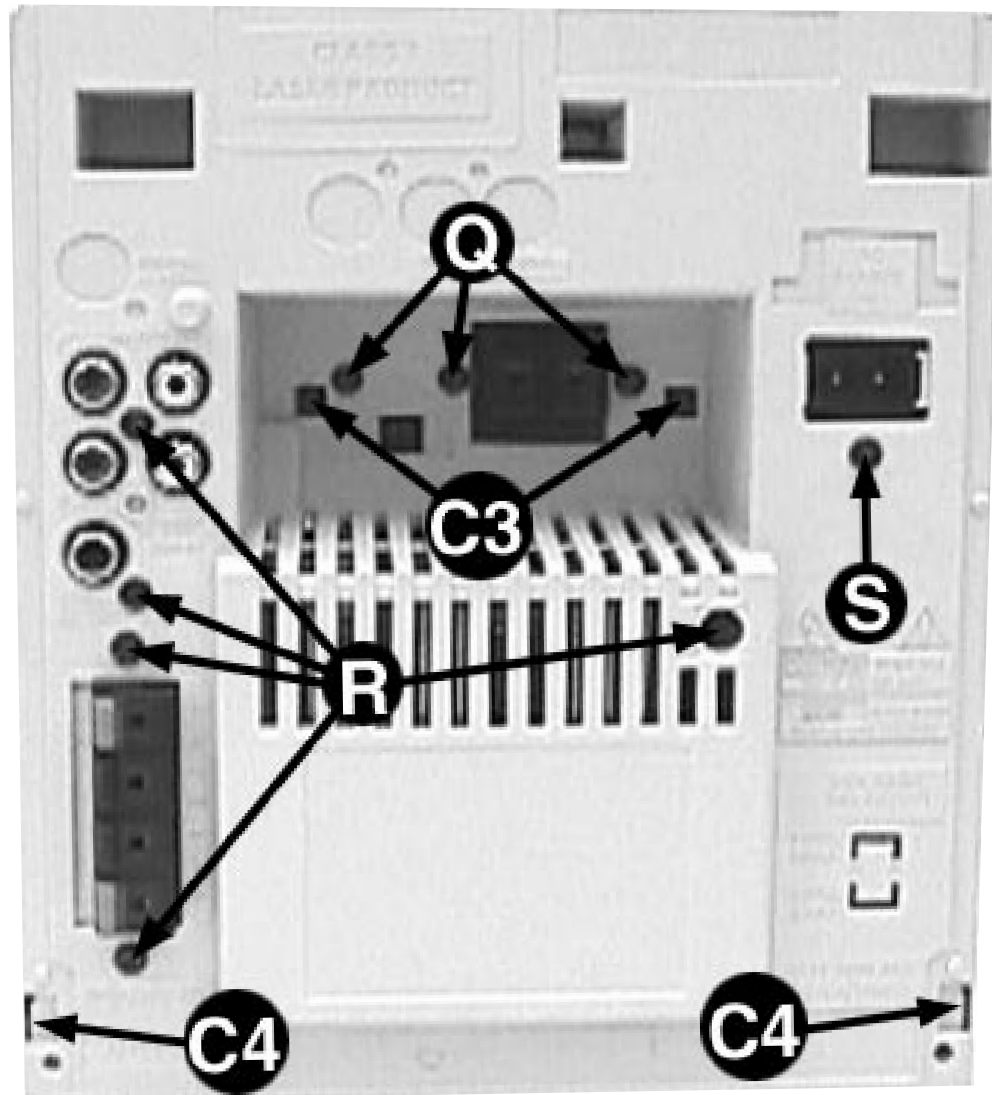

Figure 15
- 1) Loosen 3 screws Q and 2 catches C3 (see Figure 15) to remove the Tuner Board assembly.
- 2) Loosen 1 screw S (see Figure 15) to free the Mains Socket Board from the Panel Rear (pos 256).
- 3) Loosen 5 screws R and 2 catches C4 (see Figure 15) to remove the Panel Rear (pos 256) by sliding it out towards the rear.